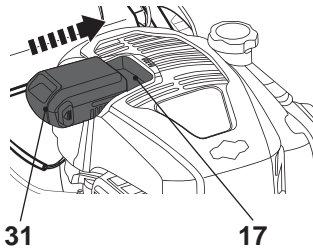

Fig. 7
- Align the battery pack (31) with the sliding slots of the battery docking port (17) and slide the battery pack in to attach it. Ensure the release buttons (31a) snap in place (Fig. 7).